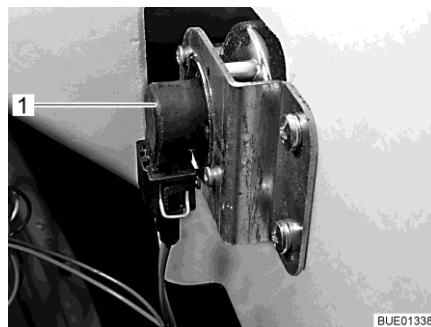

Fig. 214 Direction indicator
- Put your hand behind the lamp holder (Fig. 214,1).